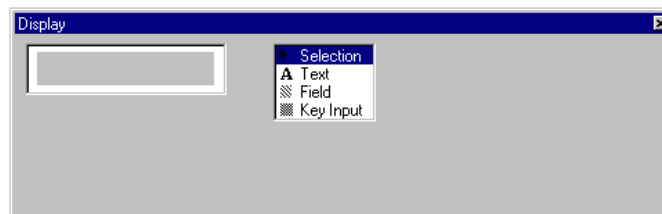

Figure 3-59 Display Window
51. The **Display** window opens (Figure 3-59).